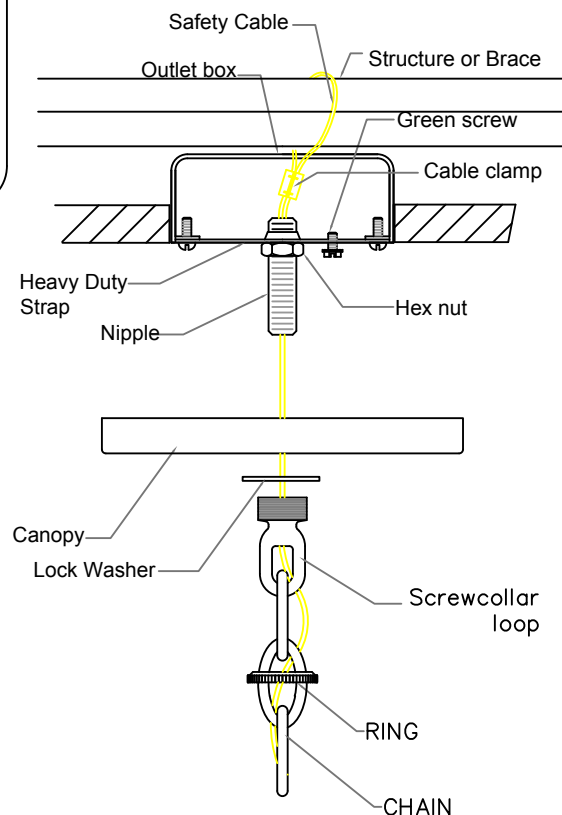

FIGURE-1
1. Attach the heavy duty strap to the outlet box. (The green screw should face the floor). Attach the safety cable to the structure building or brace. See figure-1